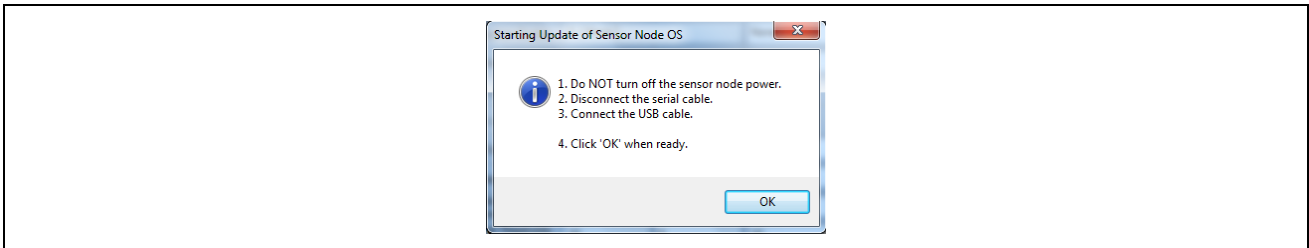

Figure 5 Starting OS Update Dialog
- 7 When the Starting Update of Sensor Node OS dialog shown in Figure 5 appears, follow the steps outlined in the dialog.